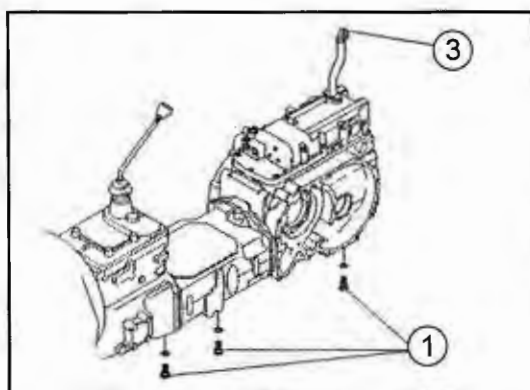
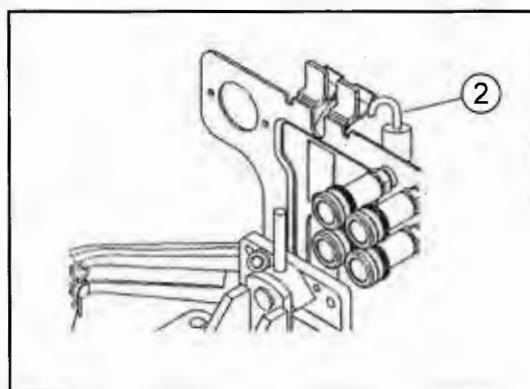

Fig. 40-1 - Drain Plugs
Fig. 40-2 - Filler Hole
- Drain oil into suitable container by removing three drain plugs (1) and fill through filler hole (2). (See Fig. 40-1 & Fig. 40-2).